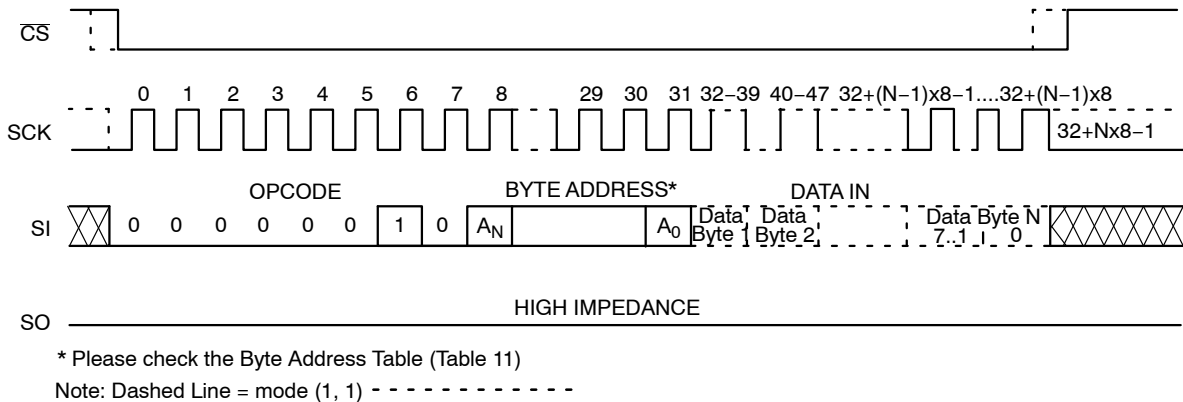

Figure 6. Page WRITE Timing
After sending the first data byte to the CAV25M01, the host may continue sending data, up to a total of 256 bytes, according to timing shown in Figure 6. After each data byte, the lower order address bits are automatically incremented, while the higher order address bits (page address) remain unchanged. If during this process the end of page is exceeded, then loading will “roll over” to the first byte in the page, thus possibly overwriting previously loaded data.
The additional 256-byte Identification Page (IP) can be written with user data using the same Write commands sequence as used for Page Write to the main memory array (Figure 6). **The IPL bit from the Status Register must be set (IPL = 1) using the WRSR instruction, before attempting to write to the IP.**